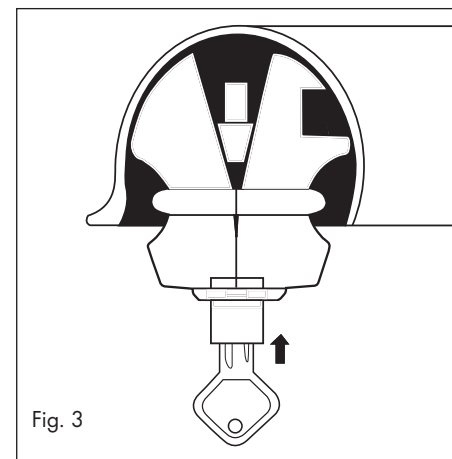

Fig. 3
7. Turn the key clockwise until the lock cylinder can no longer be pulled out (see Fig. 3).